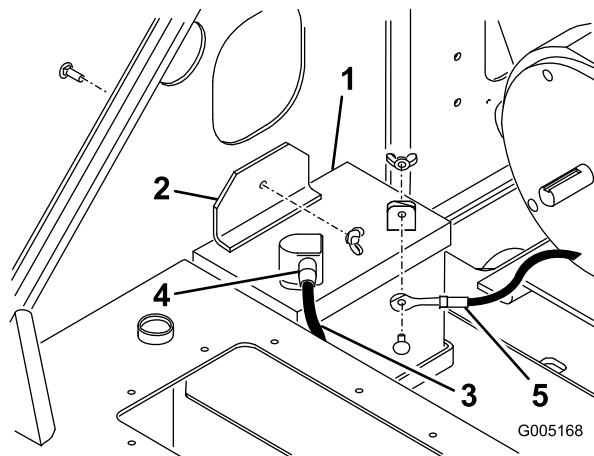

Figure 28
3. Remove the wing nut and bolt securing the battery clamp and strip (under the clamp) and remove the clamp and strip (Figure 28).
8. Install the battery into the chassis (Figure 28).
9. Secure the battery in the chassis (Figure 28).
10. Using the bolt and wing nut supplied with the battery, connect the positive (red) cable to the positive (+) battery post (Figure 28). Slide the rubber cover over the battery post.
11. Using the bolt and wing nut supplied with the battery, connect the negative (black) cable to the negative (-) battery post (Figure 28).